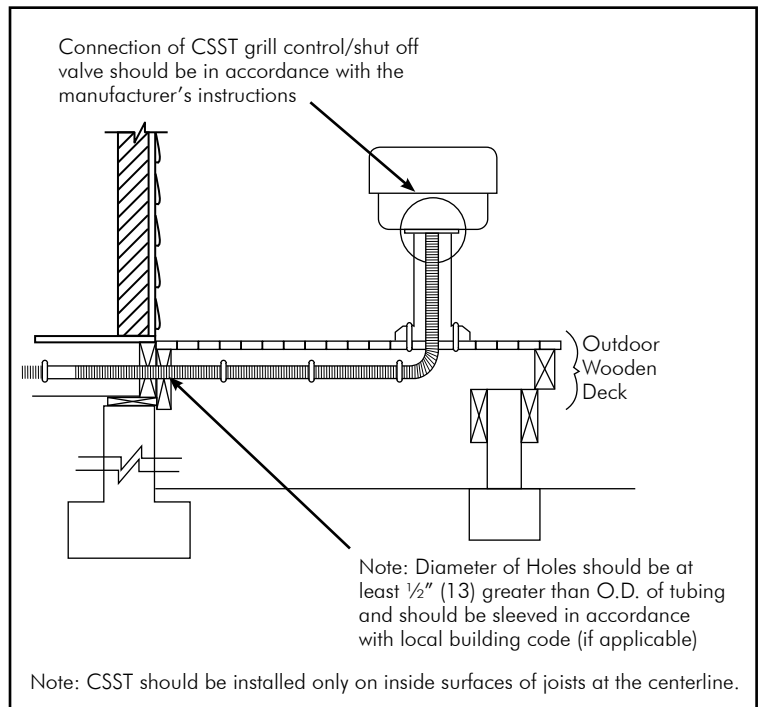

FIG. 4-25 Elevated deck direct connection
- Permanently mounted grills located on decks shall be connected to the Diamondback system as shown in **FIG. 4-25** and in accordance with CB Supplies Ltd.'s instructions. The outdoor portion of the Diamondback shall be supported against the side of any of the inside deck joists. If the elevation of the deck is below the top of the foundation, any exposed Diamondback shall be protected using conduit.
- Permanently mounted gas powered lights located on decks shall be connected to the Diamondback system the same as permanently mounted grills as shown in **FIG. 4-25**, and in accordance with the manufacturer's instructions.